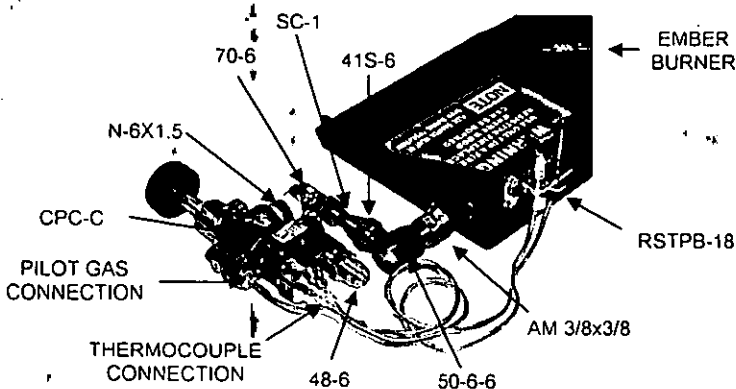

FIGURE 3
6. Fill the burner pan with VM (vermiculite) so that the burner pipe is completely covered and the level is evenly sloped with the sides of the ember burner pan, then proceed to place part B embers on top. (See Figure 3)